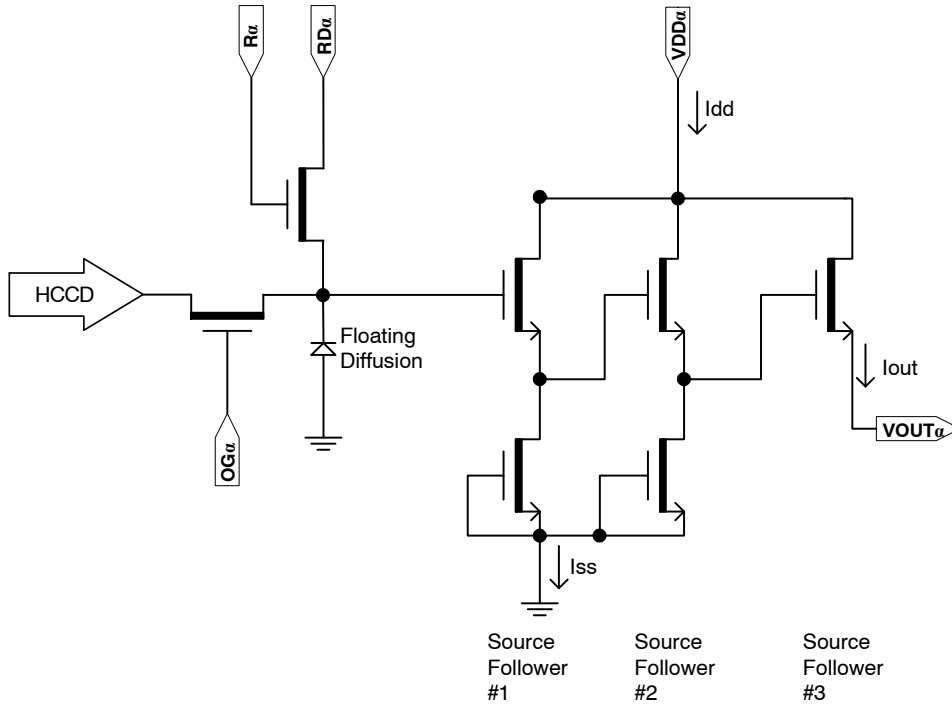

Figure 20. Output Amplifier
- The maximum DC current is for one output. Idd = Iout + Iss. See Figure 20.